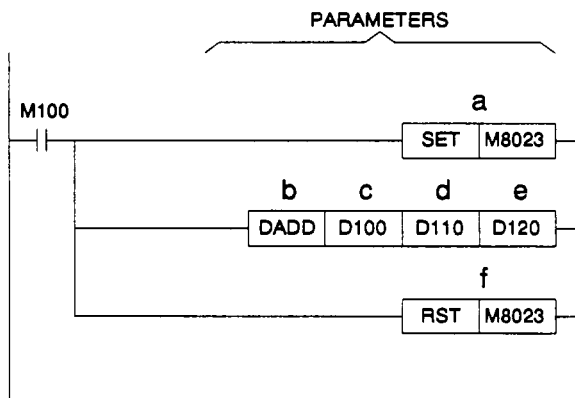

Figure 1: The floating point Add instruction in ladder format.
Figure 1 shows the typical appearance of a floating point Add instruction in a ladder program, while Figure 2 shows the same piece of ladder logic written in instruction format. This Add instruction would have the effect of adding the floating point value stored in Data Register pair D101 and D100 to the floating point value stored in D111 and D110 when Auxiliary Relay M100 is turned on. The floating point result would then be stored in D121 and D120. The following section explains each parameter in greater detail:
- i) DADD: The standard form of the instruction, taking 13 steps of program. In the example shown in Figure 1, while M100 is turned on, the DADD instruction will operate.